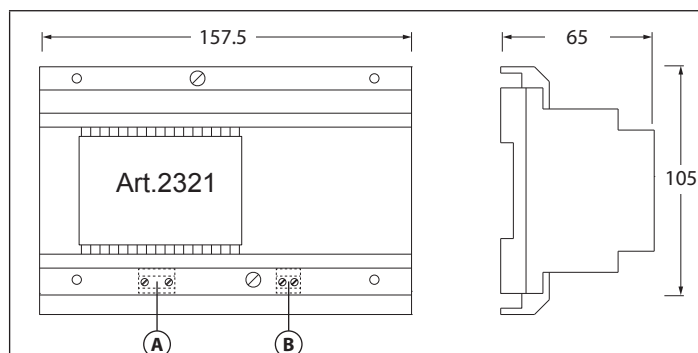

Fig. 1 Art. 2321
1. In order to install the videophone, it is necessary to remove the cover, which contains all the electronics, from the base: firstly disconnect the handset from the videophone (by removing its plug from the videophone) then insert a 5.5mm flat screw driver into the clip (A) then rotate clockwise until you listen a "CLICK!". Repeat the same operation with the other clip as shown in Fig. 1.